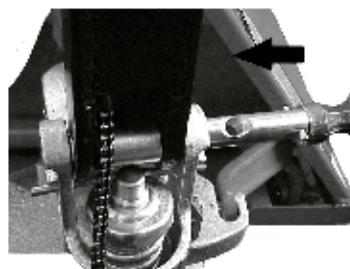

Fig. 6: Inserting the bolt
- Insert the tiller (1) into the pump piston. Using a hammer, drive the bolt with the bores in from the right in order to connect the two assemblies (Fig. 6).